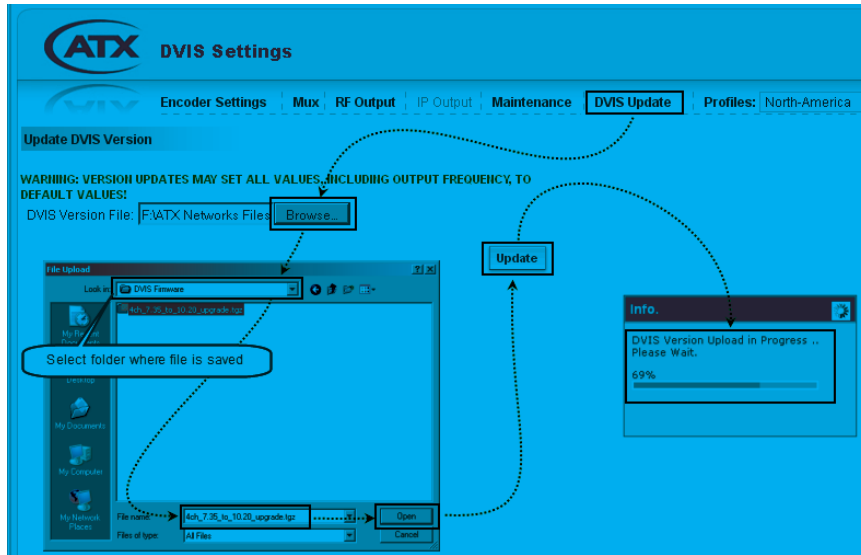

Figure 12-3: Upload Firmware
3. Click **Update** to begin uploading the file to the DigiVu. See Figure 12-3.